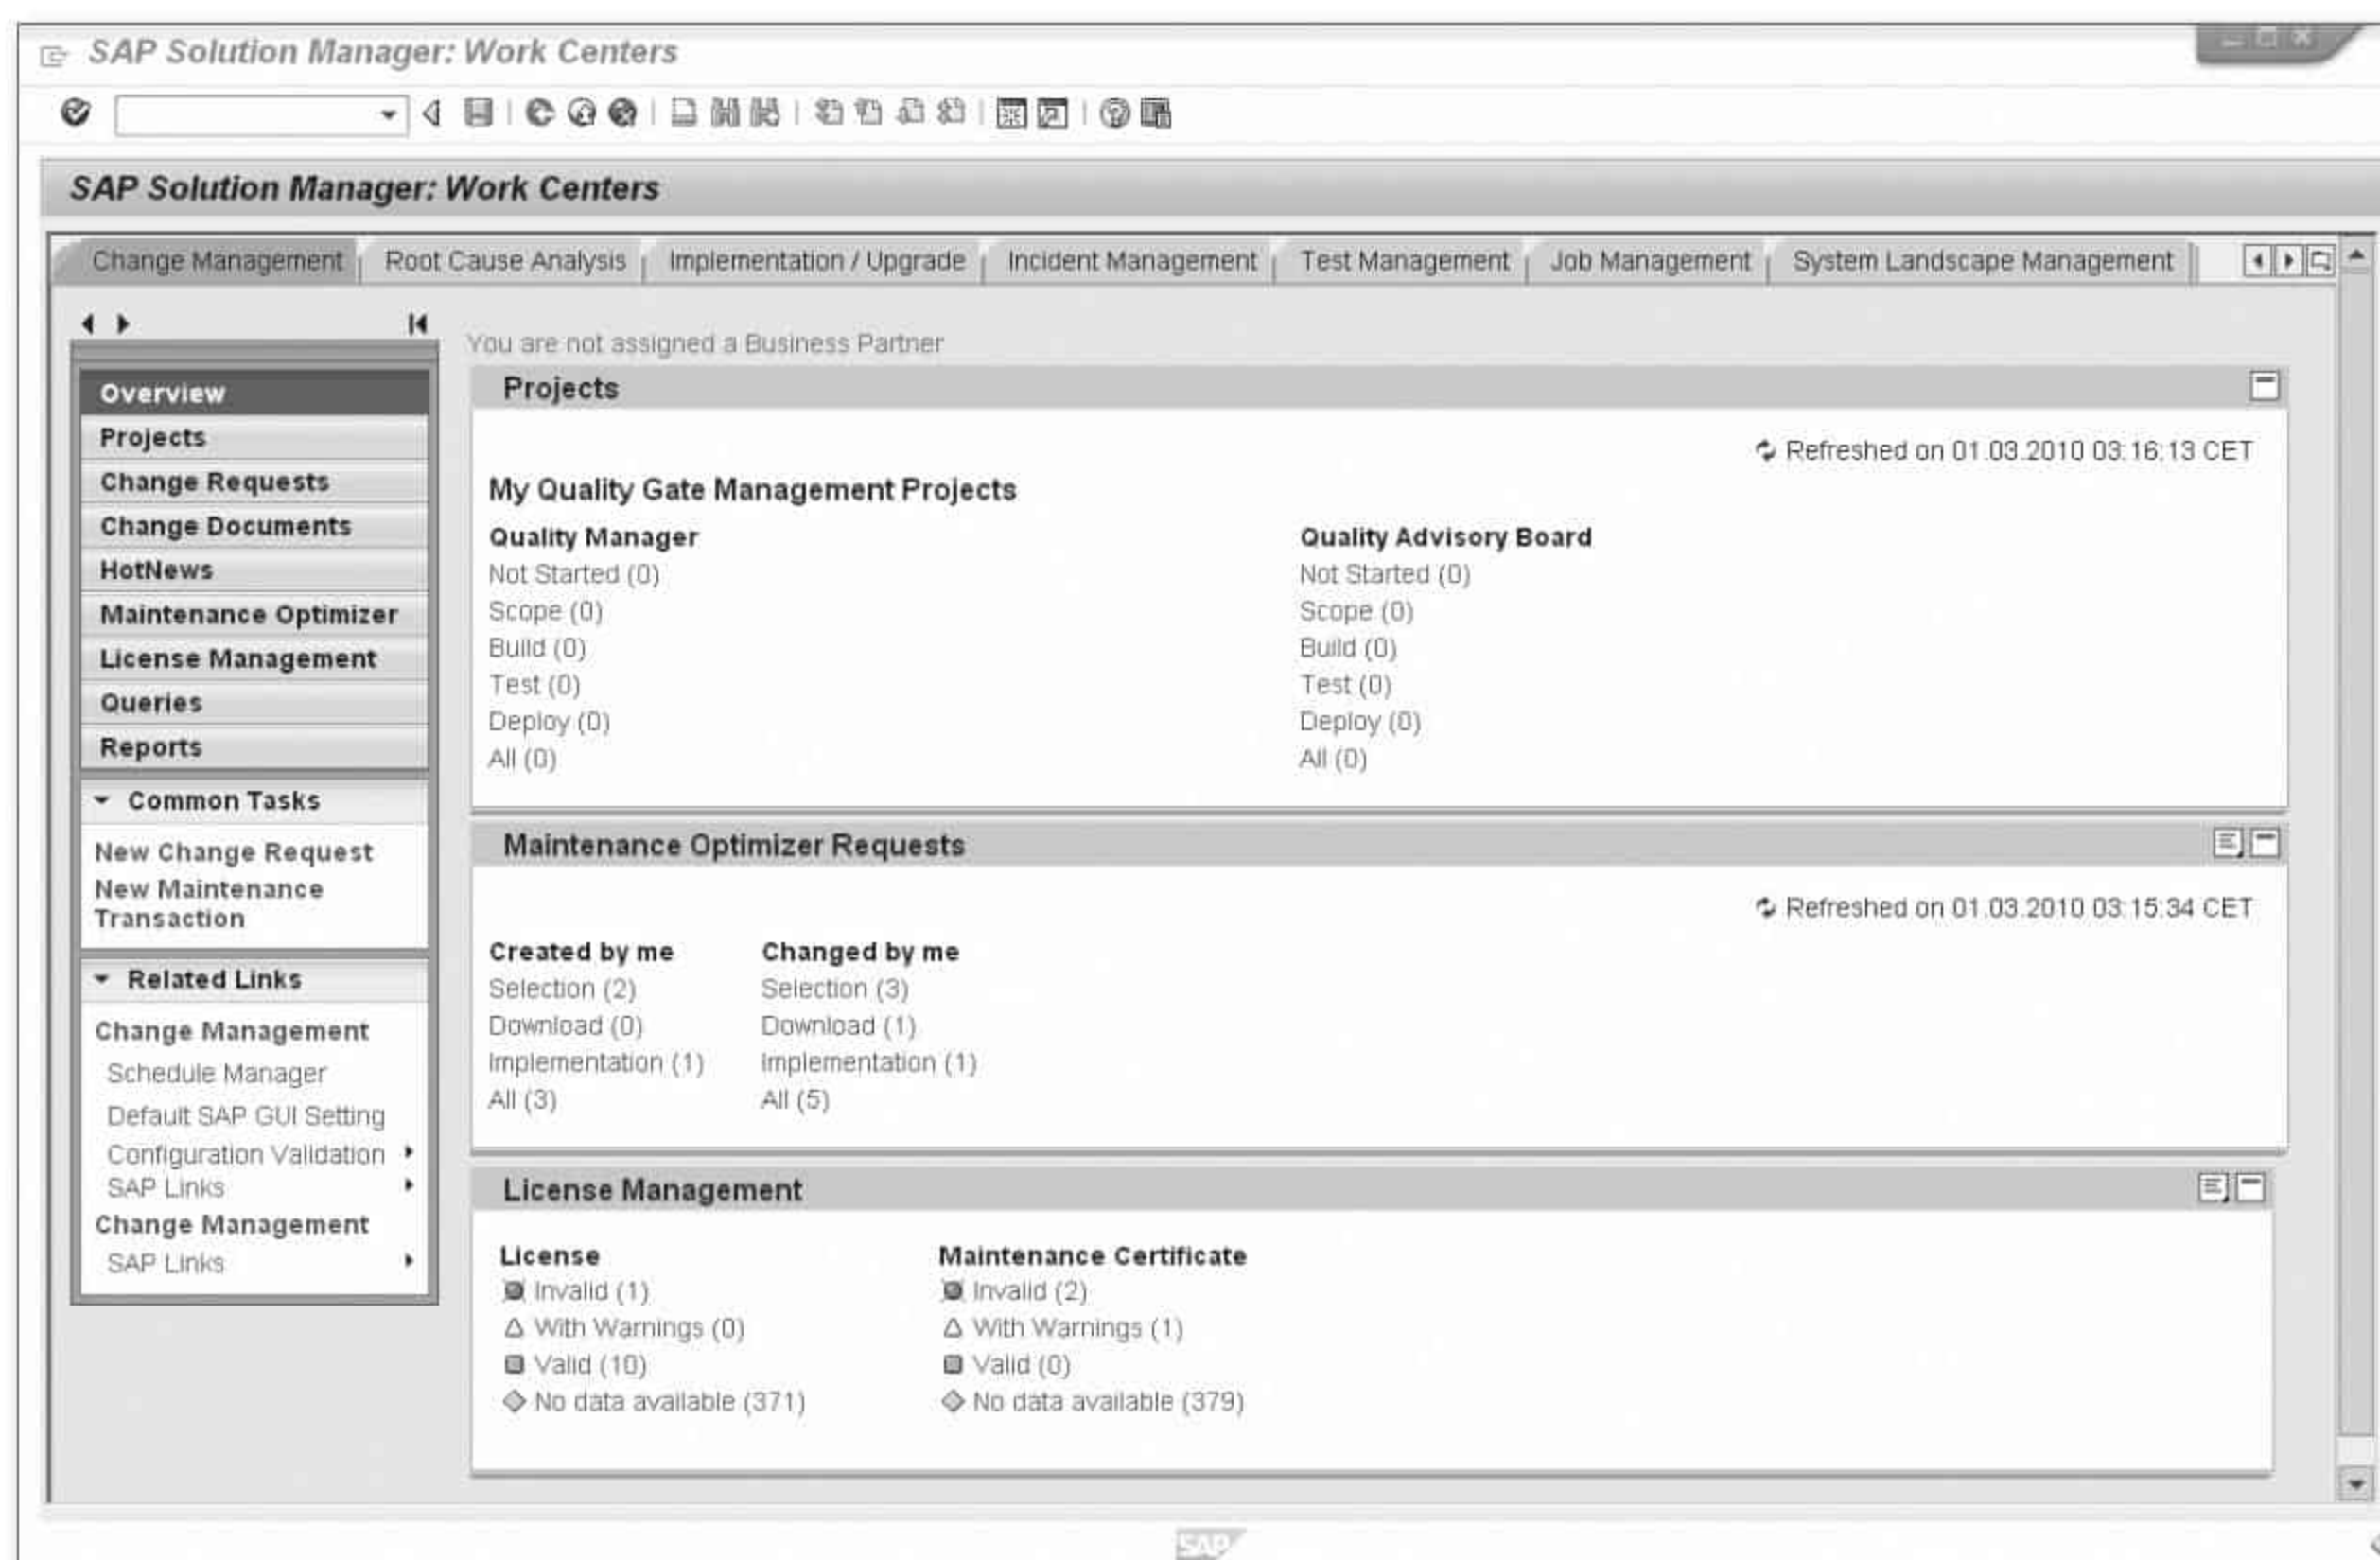

Figure 4.6 Initial Screen of the Change Management Work Center
Figure 4.6 shows the CHANGE MANAGEMENT work center of SAP Solution Manager. In the OVERVIEW area, you can get an overview of all your maintenance activities in your system landscape. Moreover, from the CHANGE MANAGEMENT work center you can start the *guided procedure* of the Maintenance Optimizer, which guides you through the planning and download of support package stacks and enhancement packages, for example.
1. Start Transaction SOLMAN_WORKCENTER, and navigate to the CHANGE MANAGEMENT work center (see Figure 4.6).